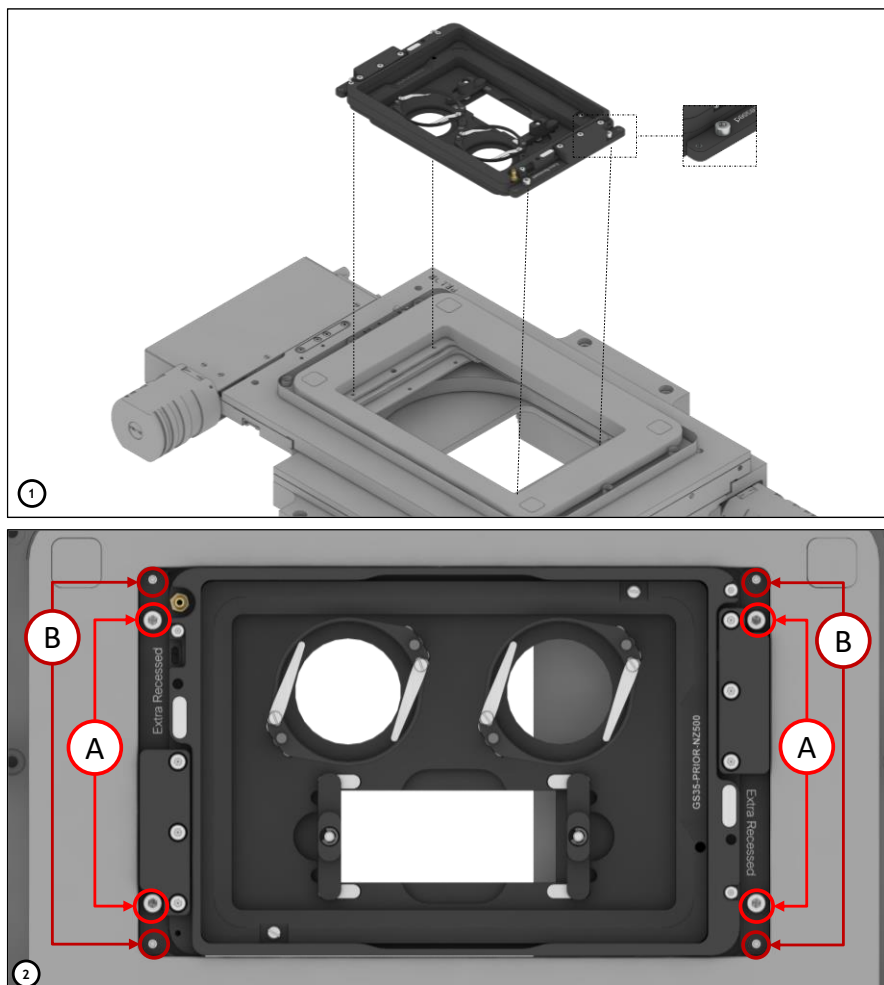

Figure 4. Installation of the Chamber on the Stage
To fix the H201-PRIOR-SP200-400-600 chamber on the stage, follow the steps shown in Figure 4.
1. Slot the chamber base into the stage, taking care to match the screws position (see 1 in Figure 4).
NOTE: Check for the chamber base tilting. If necessary, adjust the chamber base on the stage by turning the grub screws (indicated by letter B in 2, Figure 4). Use a 1.5 hexagonal key to lift the grub screws.
2. Fasten the captive screws indicated by letter A using a 2.5 hexagonal key (see 2 Figure 4).